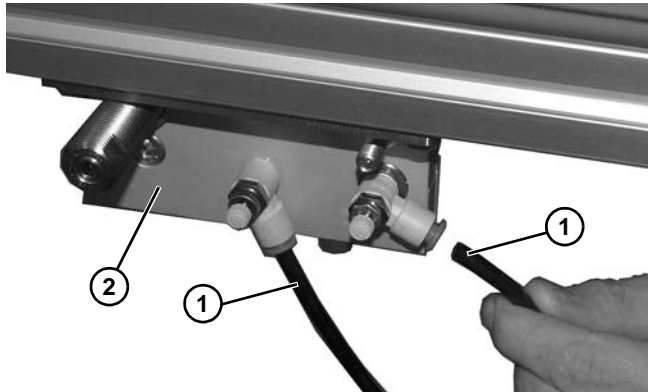

Figure 112
2. Disconnect both hoses (Figure 112, item 1) from fittings on pallet pusher assembly (Figure 112, item 2).